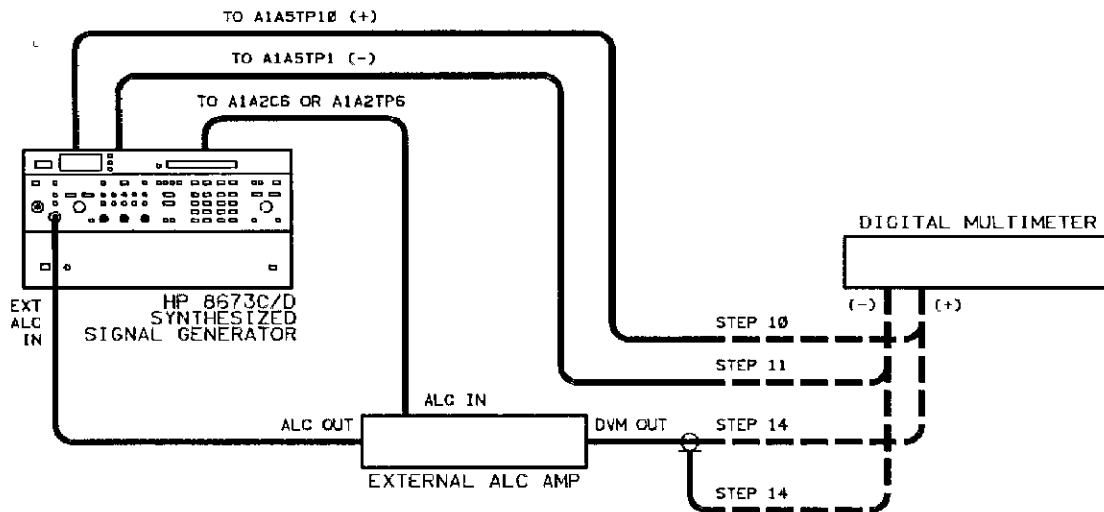

Figure 5-42. External System Mode ALC Adjustment Test Setup
- 7 Connect the equipment as shown in figure 5-42.